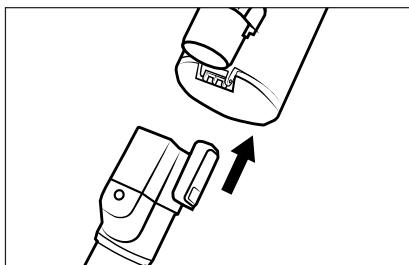

Fig. 1
- Push the suction pipe 23 onto the appliance until it audibly clicks into place (see Fig. 1).